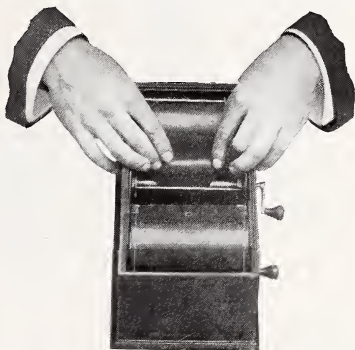

FIG. 4.
6. Thread the paper underneath wire guard on transferring reel through which axle "D" passes (Fig. 4), and turn axle slowly to right until the word "stop" appears on duplex paper.